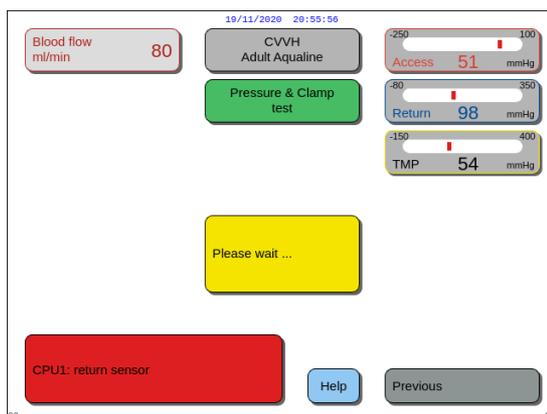

Fig. 112
- ▶ If the *Clamp and pressure test* failed, a red window with the description of the reason appears (Fig. 112).